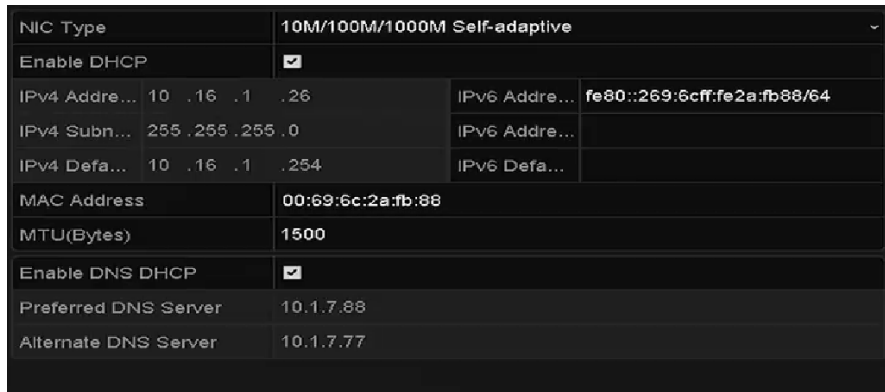

Figure 11-20 Network Settings Interface
Step 2 Set the IPv4 Address, IPv4 Subnet Mask, IPv4 Gateway and the Preferred DNS Server in the Network Settings menu, as shown in Figure 11-20.